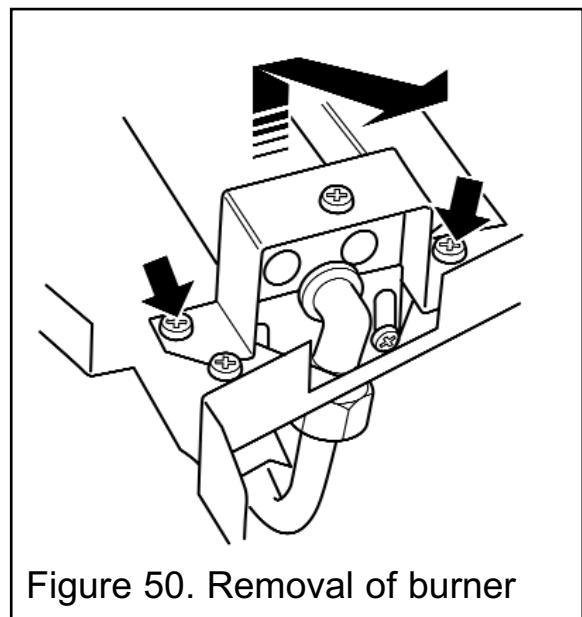

Figure 50. Removal of burner
(See figure 50).
3. Remove the two screws from the burner clamping plate (See figure 50).